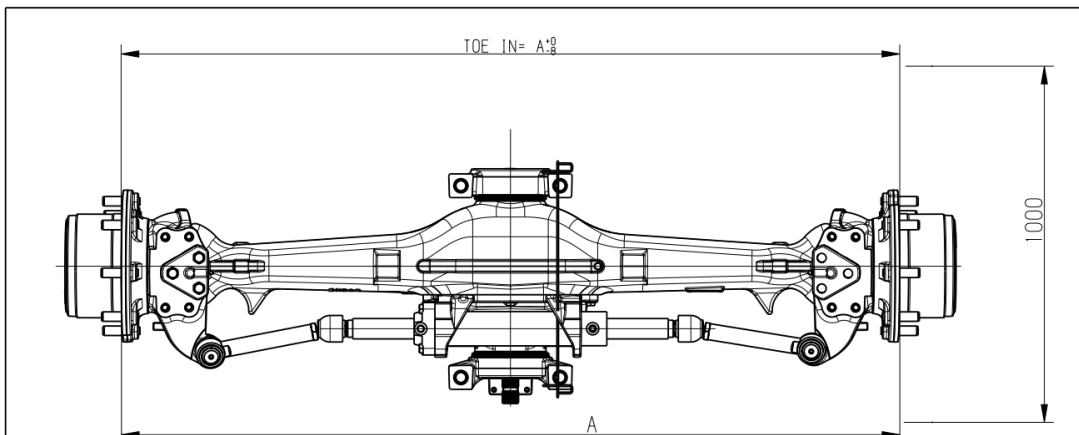

Fig. 5.7.2. Front drive axle toe-in adjustment
- shorten or lengthen the track rod by track rod ends rotating. Adjustment must be made equally to both track rod ends in within , 0 ÷ - 8 mm - Fig. 5.7.2,